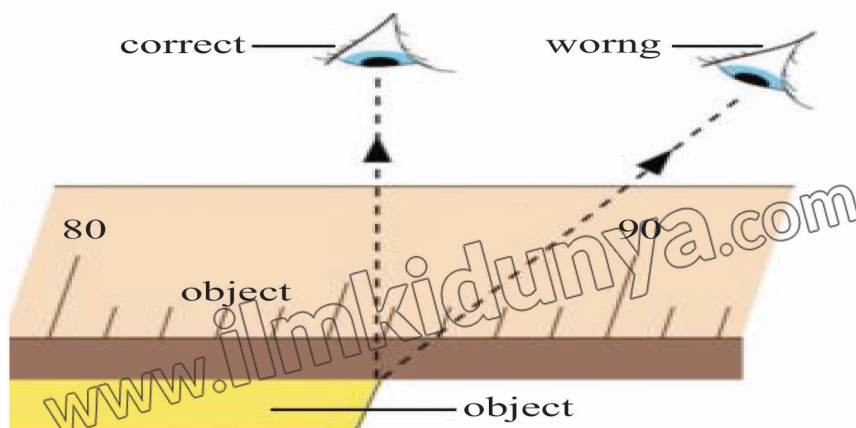

Figure 2.12: Wrong position of eye causes systematic error
2. To avoid parallax error when measuring with a meter rule, keep your eye directly over the measurement point. Parallax error, caused by viewing from an angle, can make readings seem misaligned. For accurate measurements, ensure your line of sight is perpendicular to the scale, reducing errors from incorrect angles as shown in figure 2.12.